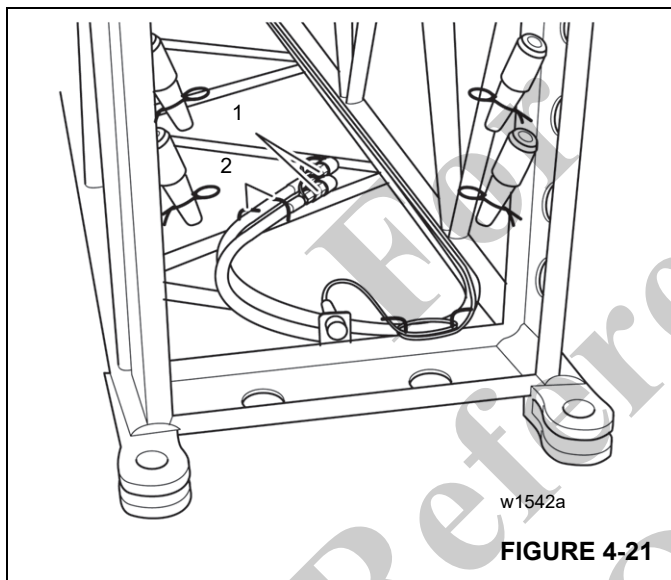

FIGURE 4-21
At the rear of the 26 ft (8 m) inserts there are two hydraulic hoses (1) with quick couplings. These hydraulic hoses can be connected on the main boom head or on a second 26 ft (8 m) insert (Figure 4-21)
For transportation, the hydraulic hoses are stored in the holders (2) (Figure 4-21).